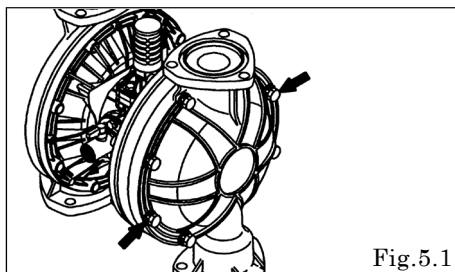

Fig.5.1
- Remove the 16 (24 on the DP-80-HD) retainer bolts from the out chamber, and remove the out chamber. [Fig.5.1]